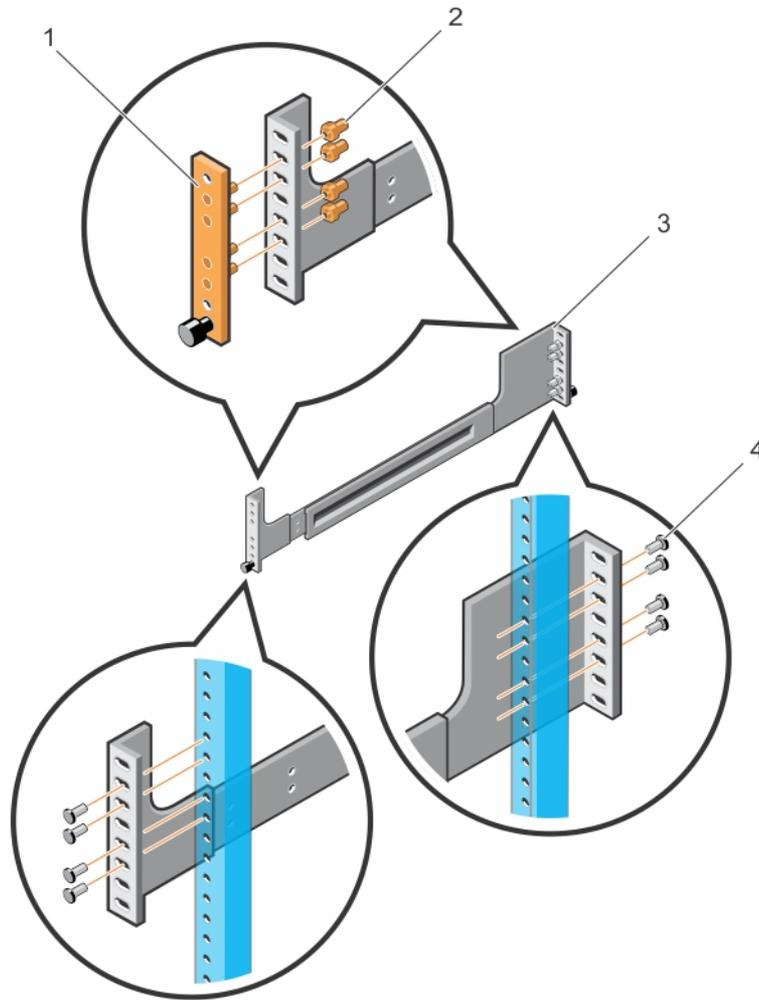

Figure 15. Installing Tooled Rails in a Threaded-Hole Rack
- Using a flat-tipped screwdriver, remove the bracket subassembly and four pins (items 1 and 2 in Figure 15) from the front and rear of each rail. Pull on each subassembly to fully remove it.
On a 4-post rack, slide the back end of each rail (item 3 in Figure 15) so that it aligns with the back post holes at the same height. Attach each rail to a rear post using four screws provided with the rack (item 4 in Figure 15).